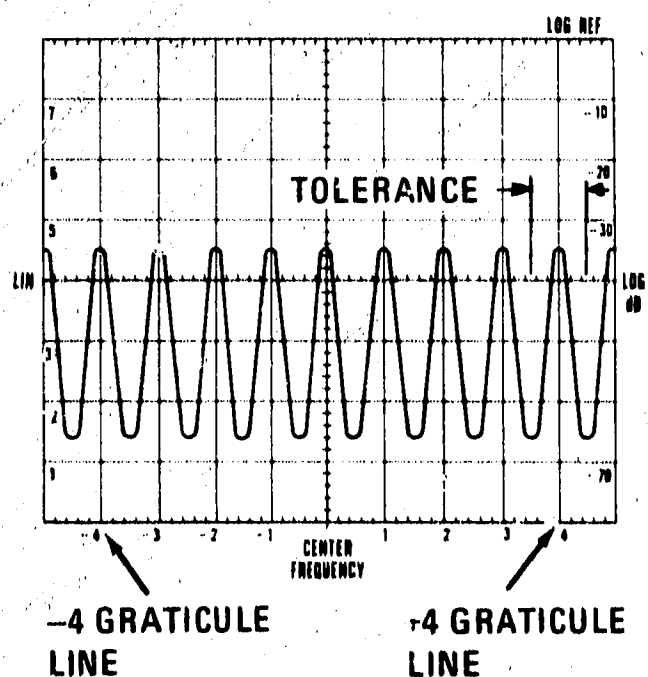

Figure 4-3. Scan Width Accuracy Display
2. Note that a 20 kHz marker appears at about every major division on the CRT display. Tune **FREQUENCY** and **FINE TUNE** to center a marker on the -4 graticule line (see Figure 4-3).